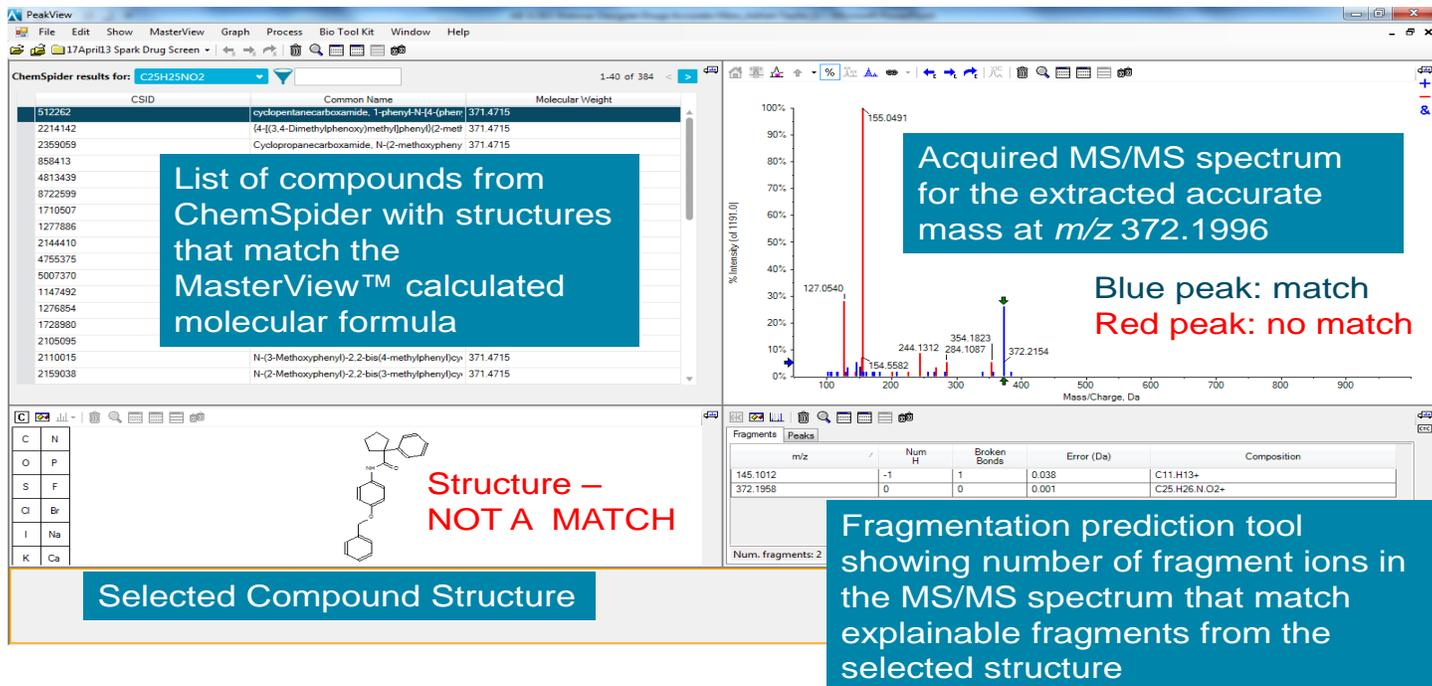

Figure 8. Automatic ChemSpider Search Session; ChemSpider hits are automatically compared against MS/MS spectrum for interpretation
- The first structure in the list only has one blue ion in the MS/MS spectrum, the others are all red. This is not the structure for this unknown compound (Figure 8)